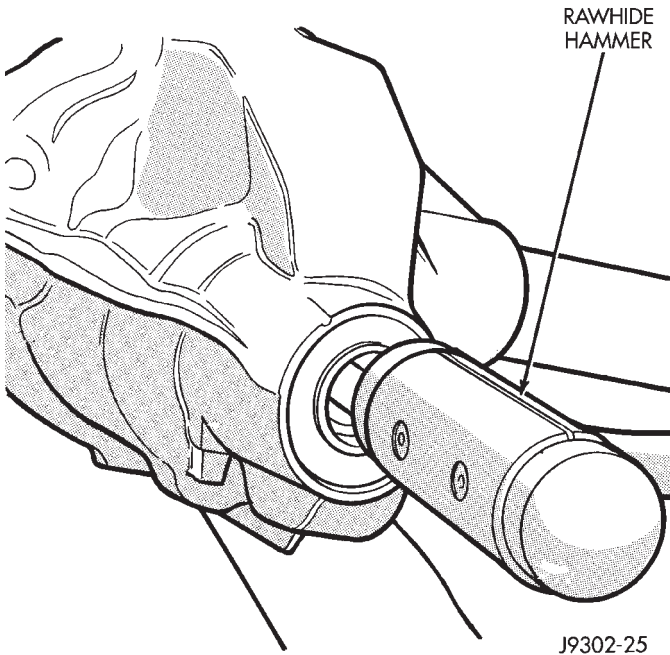

Fig. 16 Remove Pinion Gear
- (11) Remove the pinion gear from housing (Fig. 16). Catch the pinion with your hand to prevent it from falling and being damaged.
- (12) Remove collapsible spacer from pinion shaft.